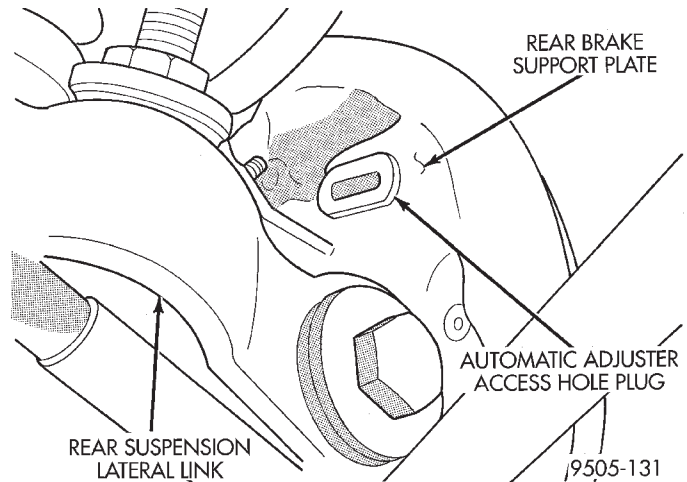

Fig. 105 Adjuster Access Hole Plug
(3) Remove the rubber plug (Fig. 105) from the top of brake support plate.